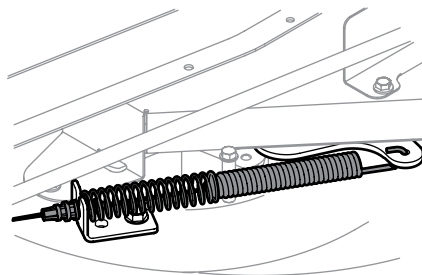

Figure 4-11
8. Carefully remove the PTO cable from the rear of the cutting deck. Remove the spring from the deck idler bracket. See Figure 4-11.